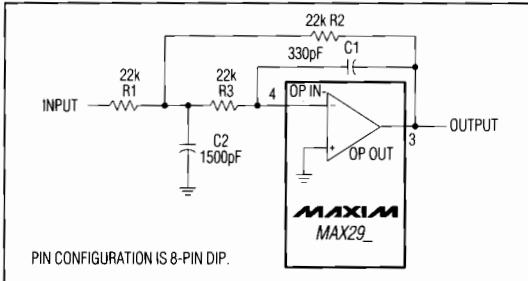

Figure 4. Uncommitted Op Amp Configured as a 2nd-Order Butterworth Lowpass Filter ($f_o = 10\text{kHz}$)
The uncommitted op amp has its noninverting input connected to the GND pin, and can be used to build a 1st- or 2nd-order continuous-time lowpass filter. This filter is intended for anti-aliasing applications preceding the switched-capacitor filter, but it can be used as a post-filter to reduce clock noise. Figure 4 shows one of many filters that can be built with this op amp: a 2nd-order Butterworth filter with a 10kHz corner frequency and an input impedance greater than $22\text{k}\Omega$. Table 1 gives alternative component values for different corner frequencies of the same Butterworth filter.
Table 1. Component Values for Figure 4's Filter
As the passband ripple of the MAX293/MAX294/MAX297 elliptic filters is of the order of $\pm 0.1\text{dB}$, it is normally appropriate to keep the passband errors of any anti-aliasing filter at or below this level. This is achieved by choosing the corner frequency of Figure 4's Butterworth filter (f_{cB}) to be higher than the corner frequency of the elliptic switched-capacitor filter (f_{cE}) by a factor of 2.5 or more. A factor of 5 or more is recommended to avoid problems with component tolerances, i.e. $f_{cB} > (5)(f_{cE})$.